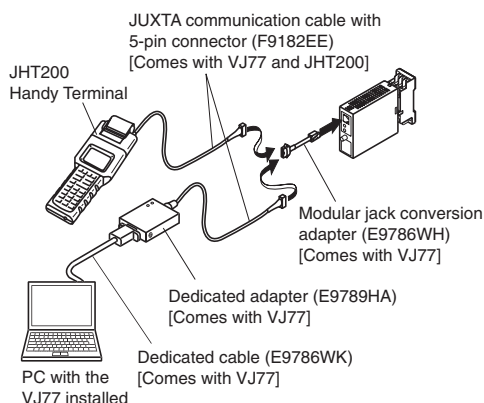
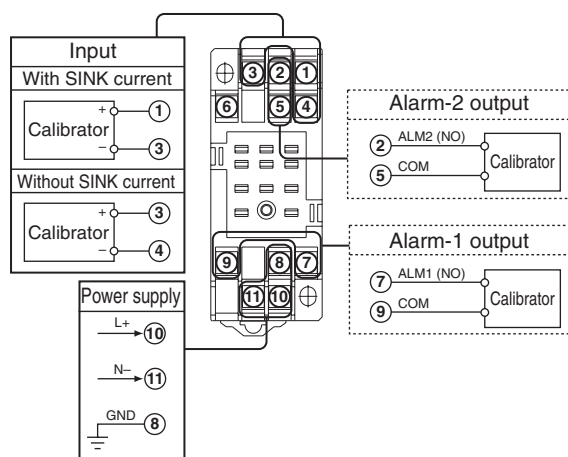

Fig. 8.2 Connecting the Setting Tools
Fig. 12.1
- (1) Connect the instruments as shown in Fig.12.1 and Fig. 8.2.
- (2) Produce the input signal equivalent to 0% of the input range from the calibrator to the product. Then, read the input value of Display items, "A01: INPUT1" using the VJ77 or JHT200 and check that the input value is within the rated accuracy range. Take the same procedure for the input signal equivalent to 25, 50, 75 and 100% of the input range and check that the input values are within the rated accuracy range.